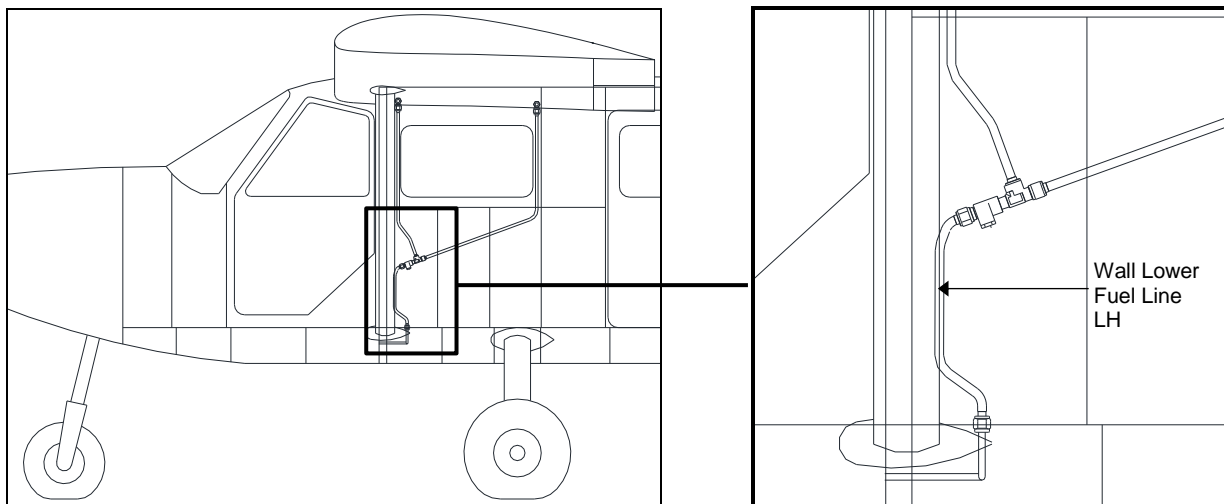

Figure 13: LH Wall Lower Fuel Line location (RH Wall similar)
- 2) Disconnect the upper and lower AN818 coupling nuts on the Wall Lower Fuel Line LH (GA8-282015-065) (See Figure 13).
- 2) Disconnect the upper and lower AN818 coupling nuts on the Wall Lower Fuel Line RH (GA8-282015-067) (See Figure 13).